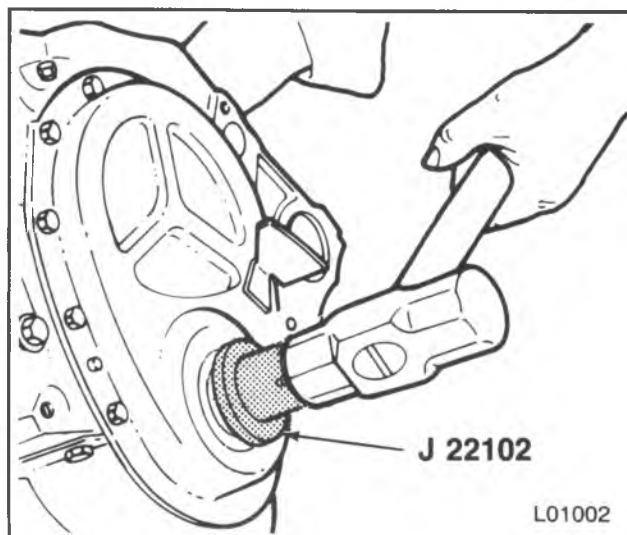

Figure 11 — Installing the Front Crankshaft Seal
Install or Connect (Figures 11 and 12)
2. Front crankshaft seal. Use J 22102 (figure 11). The open end of the seal faces inside the engine. Coat the seal lips with engine oil.